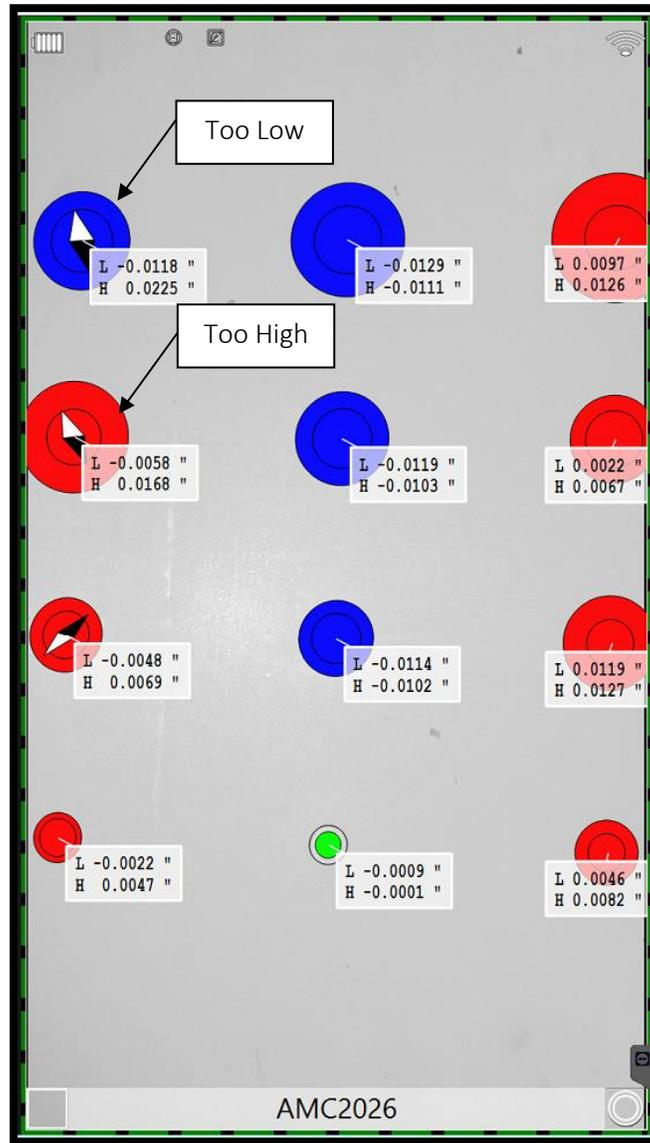

Figure 9
- You will see an image with 3 colors (Figure 9):
- You will also see the High (H) and Low (L) points measured by fastCHECK